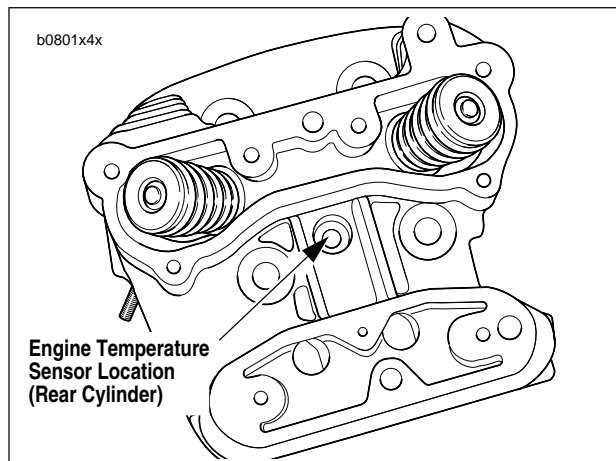

Figure 4-74. Engine Temperature Sensor Location
2. See Figure 4-74. Unplug 1-place connector [90] above rear cylinder head.